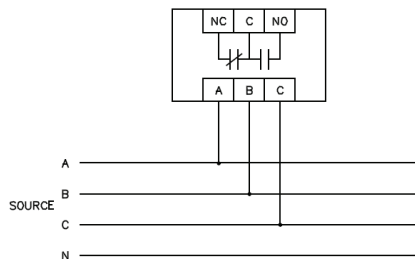
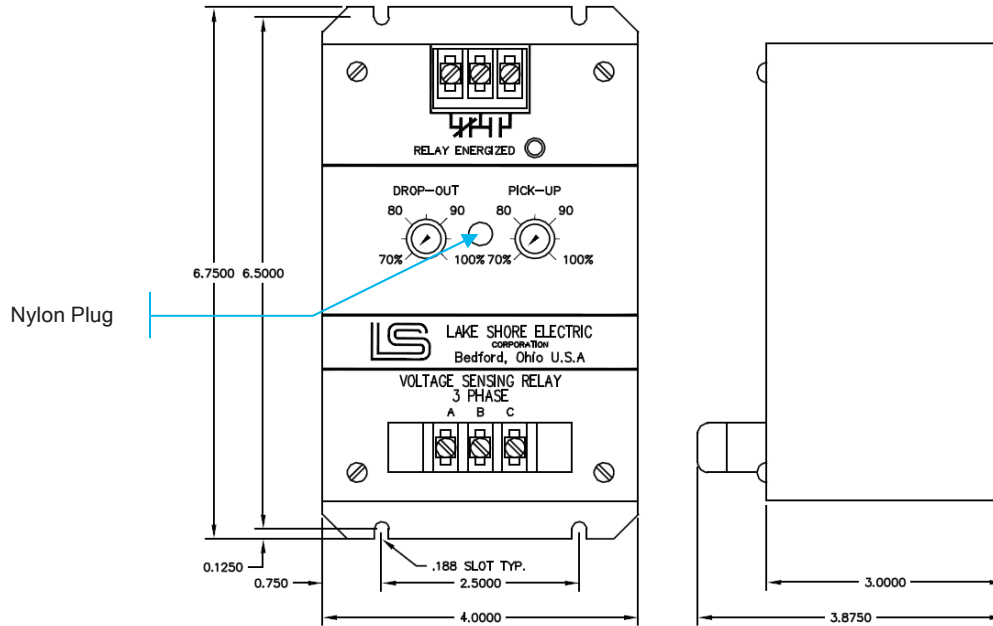

Figure 2
Figure 3
Reference Figure 2 and Figure 3 during instructions below.
* Reference Figure 3.